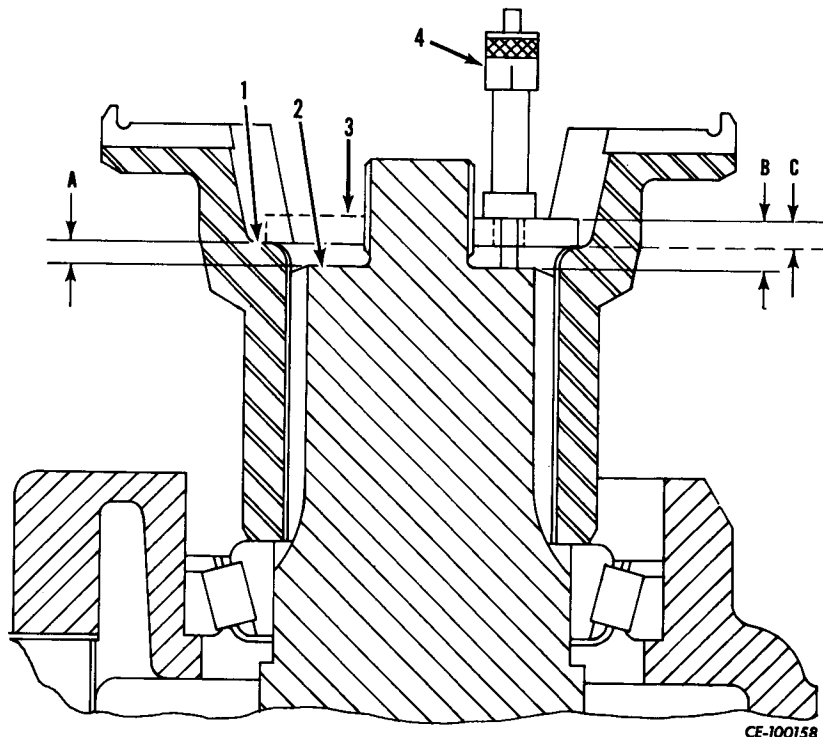

Figure 5-41
Measure distance from large diameter face of shaft (1, Fig. 5-41) to retainer contact surface (1) on yoke. This is Dimension "A".
NOTE: This measurement may be made by drilling a hole in the yoke retainer (2, Fig. 5-24) large enough to accept the shaft of a depth micrometer. Position retainer (3, Fig. 5-41) on shaft and measure distance from top of retainer to large diameter face on shaft (Dimension "B"). "Mike" the thickness of the retainer (Dimension "C") and subtract this from Dimension "B". The remainder is Dimension "A".